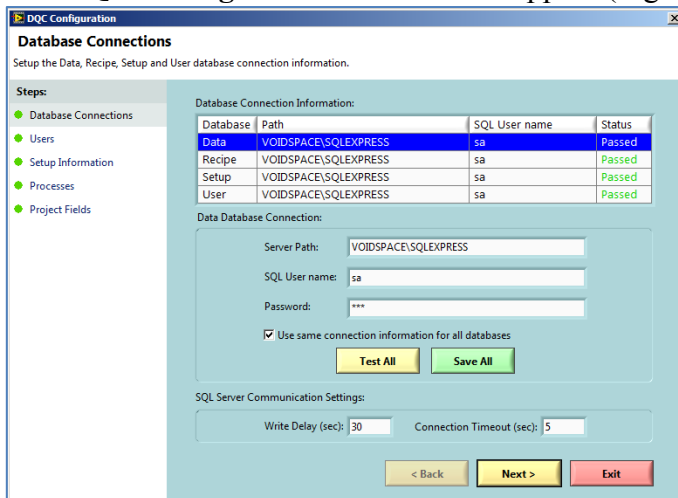

Figure 2.1-2: The **DQC Configuration** window
4. The **DQC Configuration** window will appear.(Figure 2.1-2)